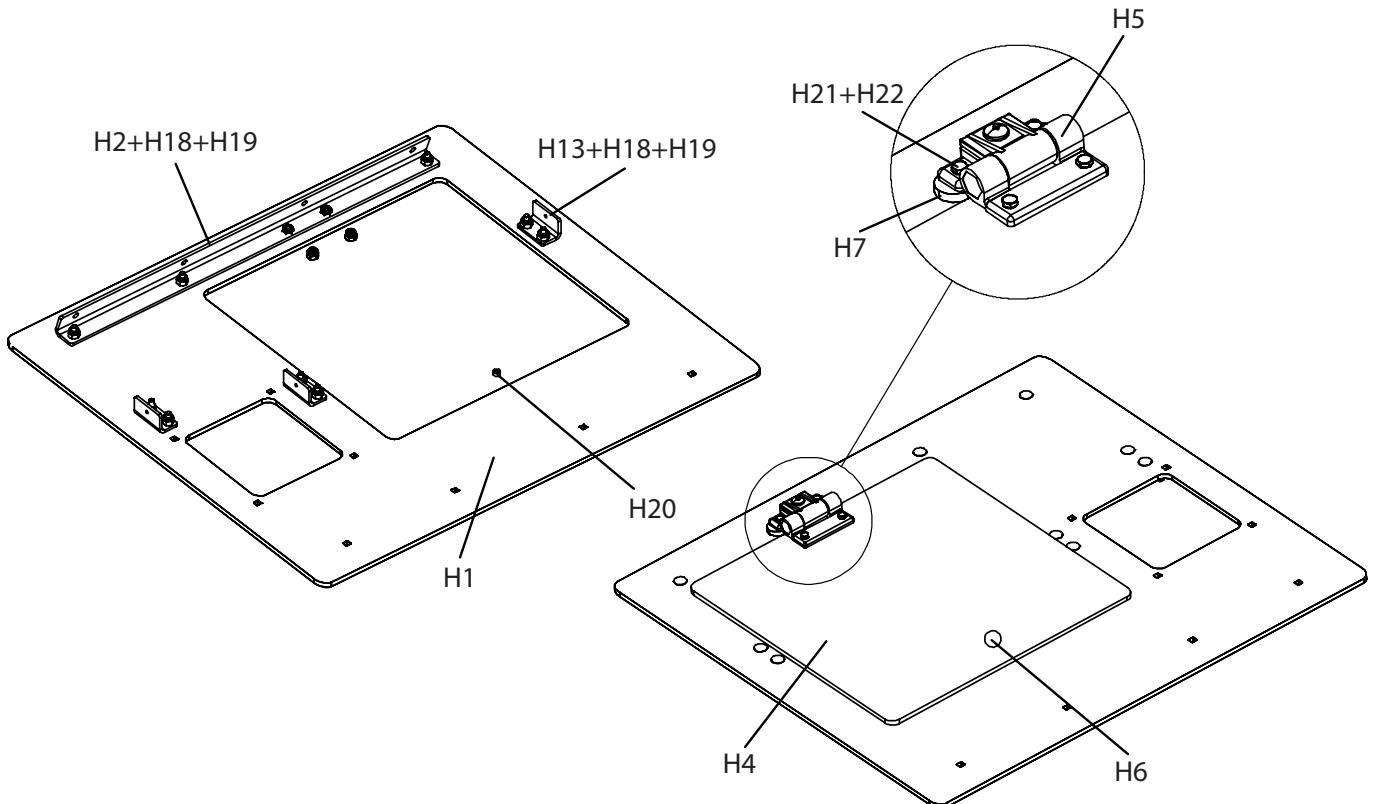

Figure 11: Overview of the Top Plate Assembly
1. Orientate the H1 Top Plate as illustrated at the left of figure 11.
2. Position the three H3 Connectors onto the plate and fasten them with 6x H18 bolts and H19 nuts. Make sure their orientation resembles figure 11.
5. Turn the Top Plate around and position it as shown at the right of Figure 11.